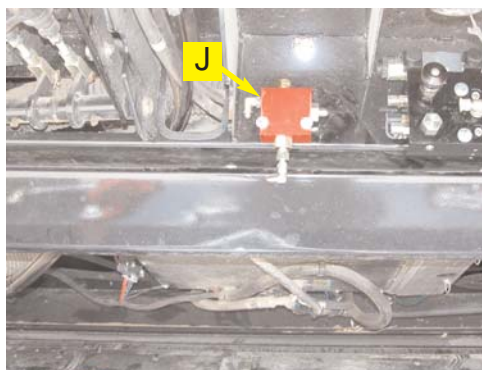
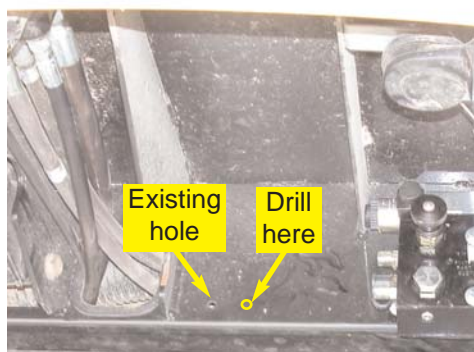

Figure 3c. Installed load sense valve.
Figure 3b. Holes drilled.
- b. Install the dynamic load sense valve (**J**) with the included hardware (**G**) to the front cab brace. Use the existing hole and drill an additional hole using the shuttle as a template. (Figure 3b.) The **PILOT** port on the dynamic load sense valve needs to be installed toward the right side of the machine. (Figure 3c.)
- c. Locate the load sense line on the right side of the orbital. (Figure 3c.)